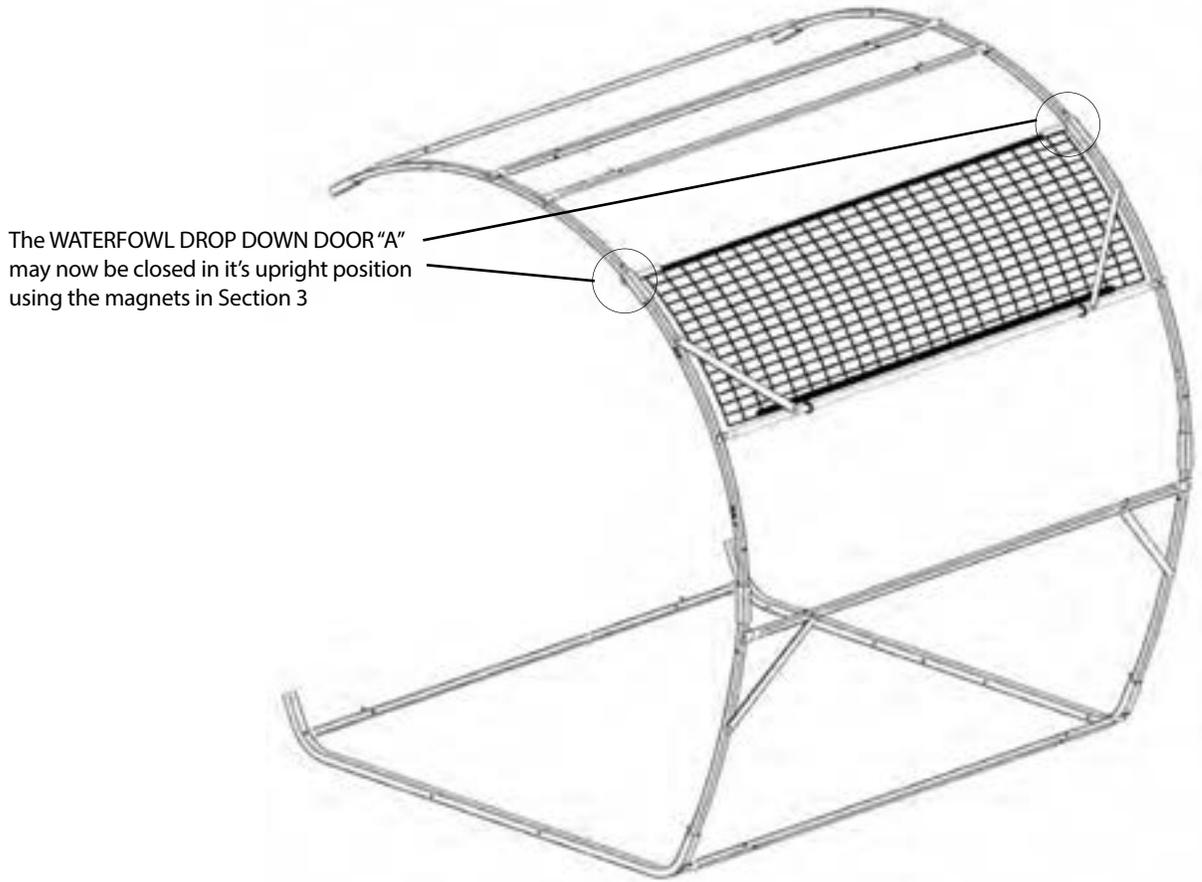

Figure 16.1
STEP 8: Install Section 3 that was created in Step 7, into Section 2 that was created in Step 5, resulting in the frame illustrated in Figure 16.1. You may now close the WATERFOWL DROP DOWN DOOR , using the magnets on the door and the magnets on the END FRAME TOP HOOPS WITH MAGNET "H", as illustrated in Figure 16.1.